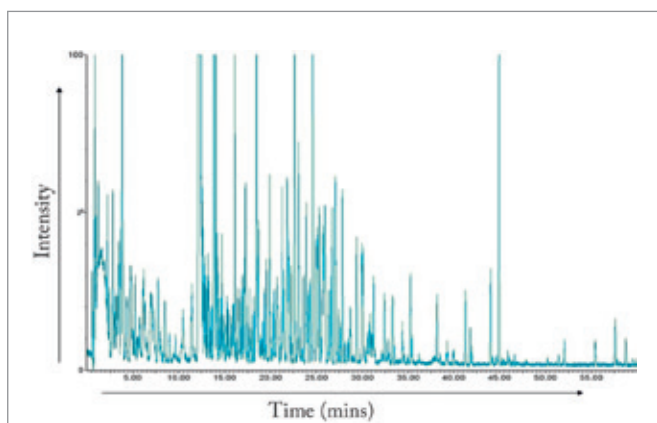

Figure 2. LC-MS (total ion current) analysis of rat urine (6).
In clinical analysis (and in other application fields such as food quality and forensics), the application of non-targeted metabolomics is increasing (4, 5). It's exciting because it compares the profiles of samples from, in the case of clinical analysis, healthy and unhealthy individuals, with the hope of discovering potential biomarkers. Clearly, the process is much more complex than drug impurity profiling because it requires the analysis of biological samples, that contain much larger numbers of compounds. You can see an example of a liquid chromatography-mass spectrometry (LC-MS) analysis of rat urine in Figure 2 (6), which helps to illustrate the complexity. Moreover concentrations can differ from trace (ppb) levels to much higher concentrations. So the big question is: how can we optimize separation and MS data extraction? There is no easy answer; the entire analytical workflow is complex and demands optimization of all steps, from sampling and sample preparation through to analysis and data interpretation. Data preprocessing (alignment of peaks and normalization of peak areas) and chemometrical procedures are also needed when it comes to comparing profiles. Moreover, biological variance has to be taken into account to interpret the data correctly. If discriminatory masses (potential biomarkers) are found, they need identifying. Subsequently, these compounds require biochemical interpretation. A word of caution: you simply can't do all this